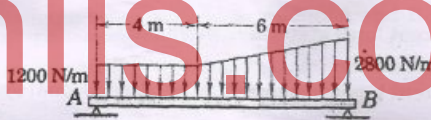

Fig 2.
- (b) (i) Determine the external reactions for the beam as shown in Figure 2. (7)